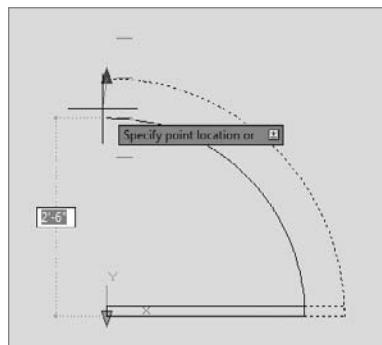

FIGURE 9.49 Using the Test block to verify the functionality of the Distance parameter
7. Select the block, and then use the light blue arrow to test the Distance parameter you added to the A-DOOR-36IN block, as shown in Figure 9.49.